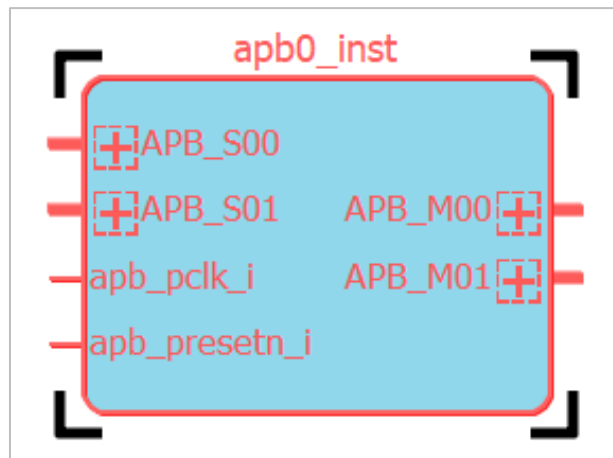

Figure 2.69. Select Module
1. Select the desired module block. The block is highlighted in red with black corners (Figure 2.69).